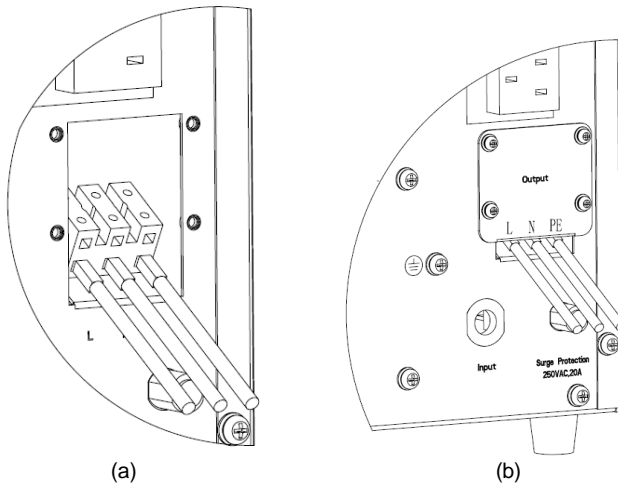

Fig.3 Output terminal of 3KVA
- 2). Use AWG14 wires for terminal wiring configuration as fig.3 (a)
- 4). Put back the cover to the rear panel as fig.3 (b).